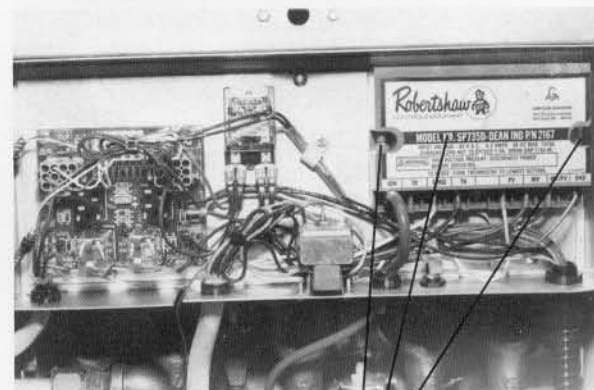

Figure 9
- Remove ignition cable and other wires at bottom of ignitor module (Fig. 9).
- Using nut driver, remove 2 ignitor module mounting screws (Fig. 9).